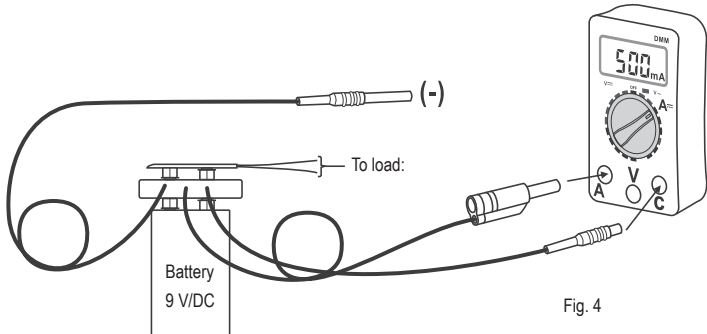

Fig. 4
- Connect the battery adapter to a compatible multimeter, as shown in figure 4. Do not connect the negative 4 mm plug (COM) (1).